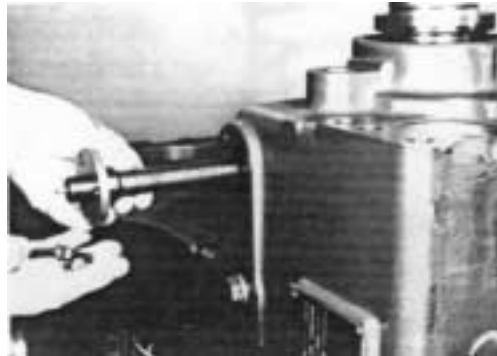

FIGURE 4-364
5. Working from the side of the transmission, remove the speedometer drive assembly. See Figure 4-364.